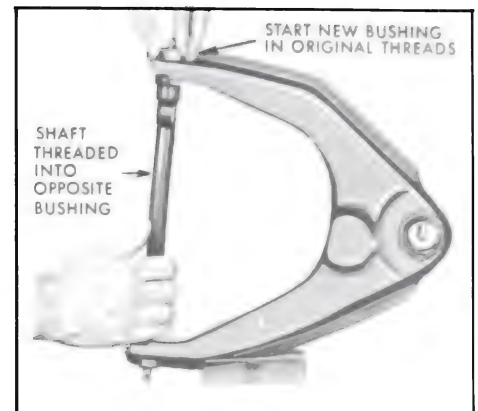

Figure 7-11—Upper Control Arm Bushing Replacement
3. Start second bushing into the upper control arm with shaft threaded into the opposite bushing. See Figure 7-11.